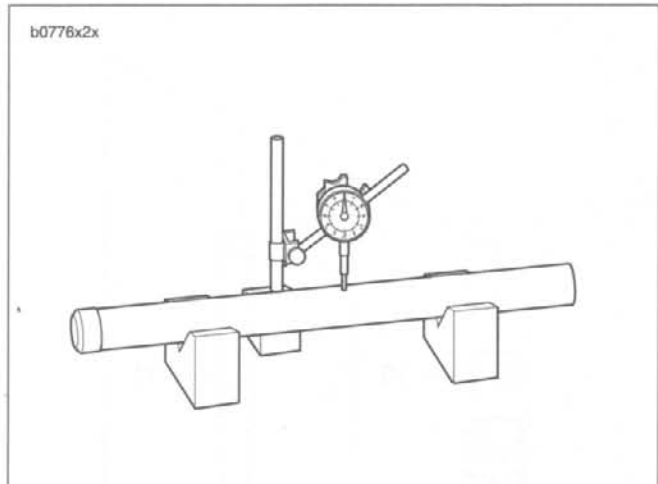

Figure 2-98. Pipe Runout
- Check the slide bushing (16) and the guide bushing (9) for excessive wear or scratches. Replace if damaged or worn.
- Replace the stopper ring (12) if distorted.
- Measure spring (7) free length. Replace springs shorter than service wear limit of 9.13 in. (232 mm).
- See Figure 2-98. Measure slide pipe runout. Replace pipe if runout exceeds the service wear limit of 0.008 in. (0.2 mm).